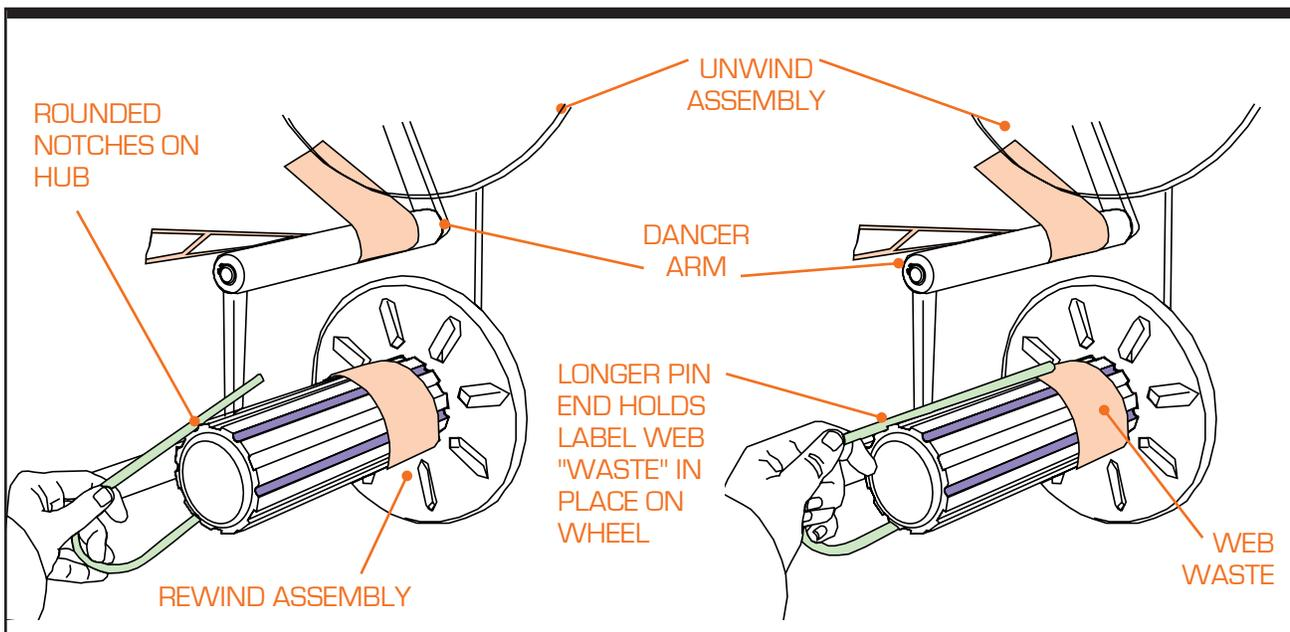

Figure 4-2. Web Holding Pull Pin on Rewind Wheel
- Step 6. Secure Excess Stock.** Once the label stock is threaded through the printer and aligned properly, pull the excess and loop around the return idler bar [6], then counterclockwise around the rewind assembly [7] (see Figure 4-2). Push the pull pin onto the rewind core to secure the label stock.